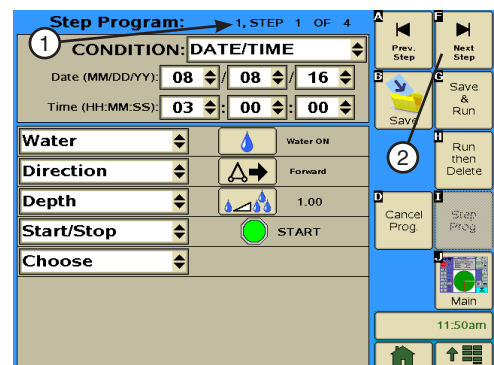

Figure 122-3 1. Step Program Identifier
5. Enter the commands to execute on 08/08/16 at 3:00 AM. Refer to Figure 122-3.